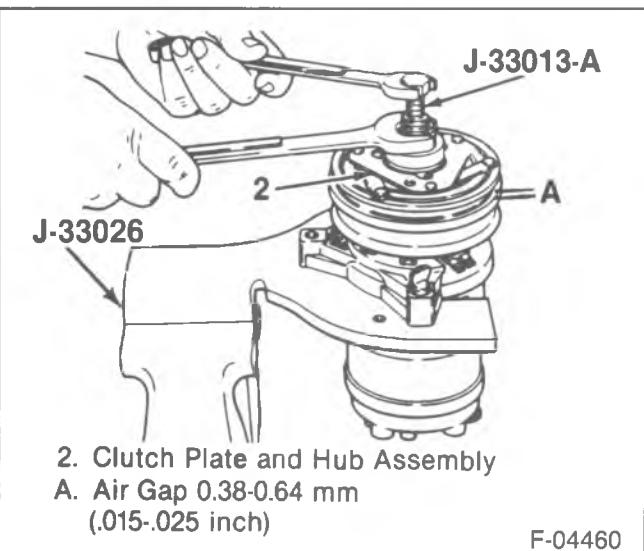

Figure 7—Installing the Clutch Plate and Hub Assembly
- Make sure the contact surfaces of the clutch plate (2) and the pulley (5) are clean.
- Install J-33013-B with bearing (figure 7).
- Hold the center screw with a wrench and tighten the hex portion of J-33013-B body while pressing the hub onto the shaft. After tightening the body several turns, remove J-33013-B and check that the shaft key (21) is properly in place in the keyway, then install the clutch plate and hub assembly (2) to its final position.
- Measure the air gap between contact surfaces of the clutch plate and hub assembly (2) and the pulley (5). The gap should be 0.38-0.64 mm (0.015-0.025-inch) (figure 7).